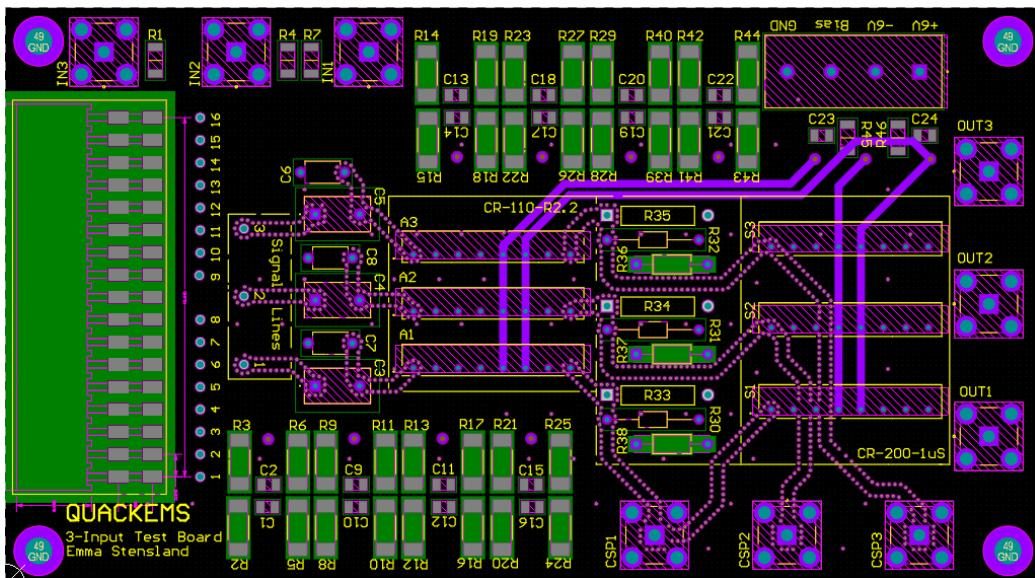

Figure 14: Layer 4 of 3-Input Test Board
4. Power Lines for Preamp and Shaper (Fig. 14)